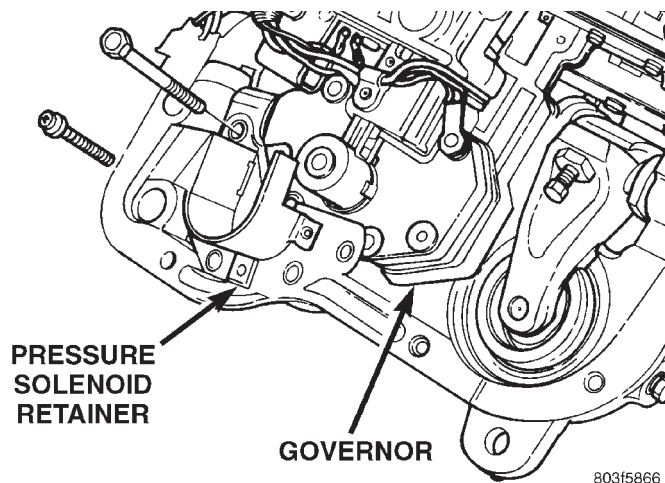

Fig. 40 Governor Body And Retainer Plate Attaching Screw
(3) Remove screws attaching governor body and retainer plate to transfer plate (Fig. 40).